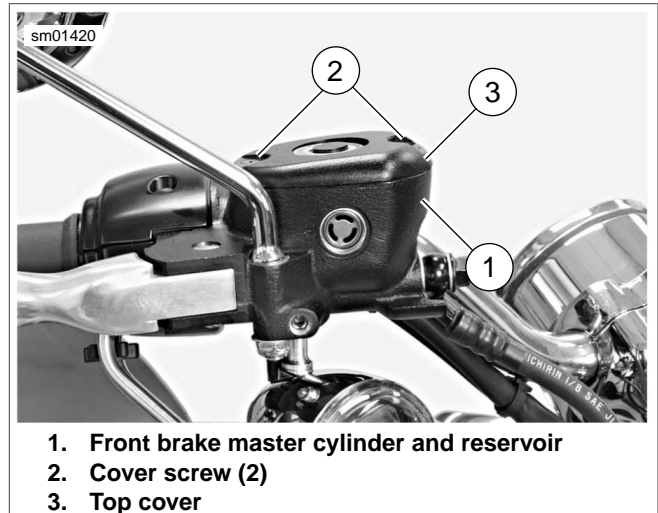

Figure 1-9. Front Brake Master Cylinder Reservoir
- See Figure 1-9. Position motorcycle so that top of front master cylinder reservoir (1) is level.